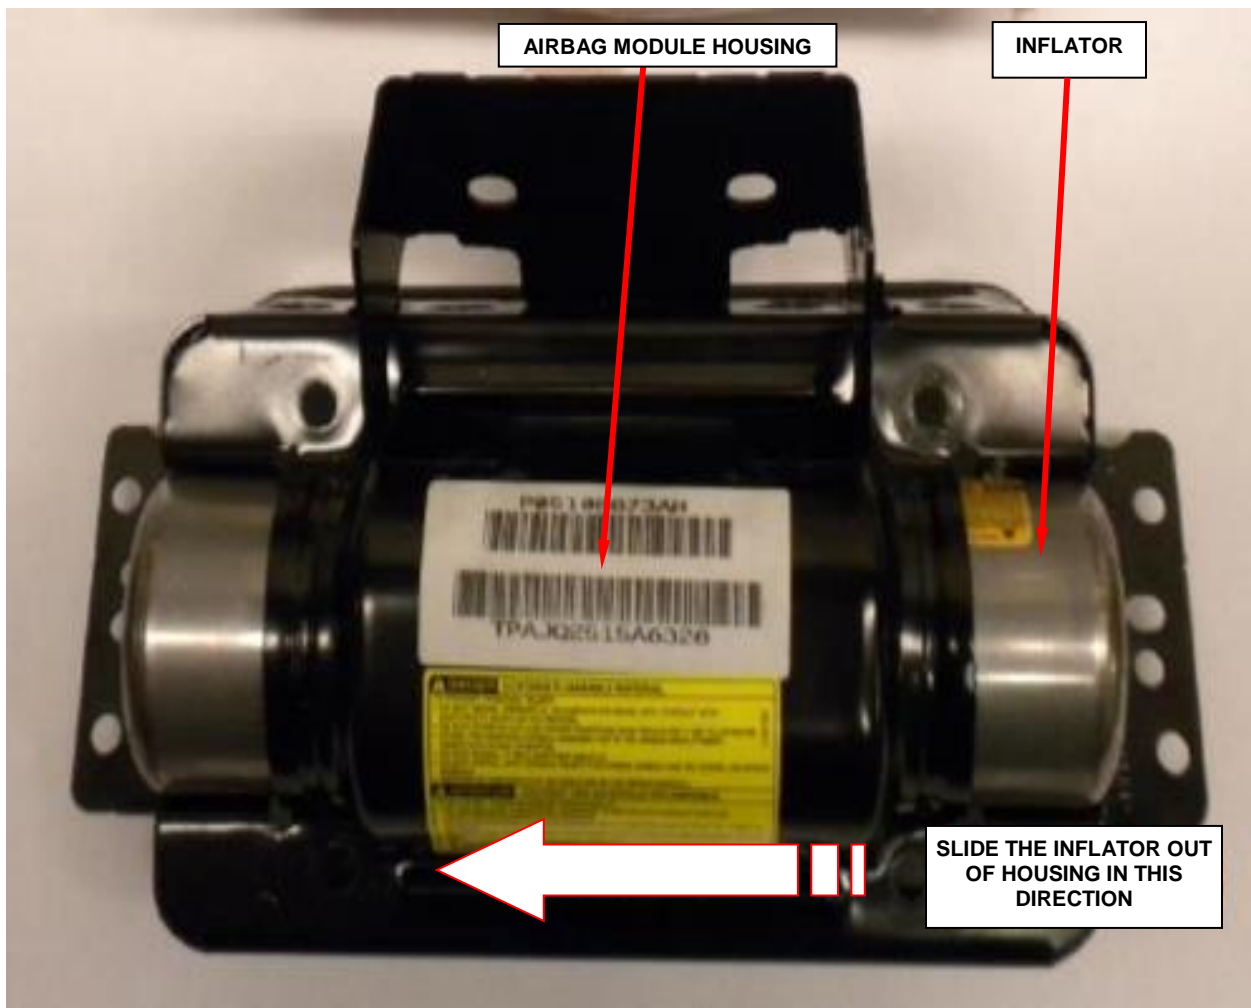

Figure 26 – Remove Airbag Inflator
- d. Slide the inflator out of the passenger airbag module housing (Figure 26).